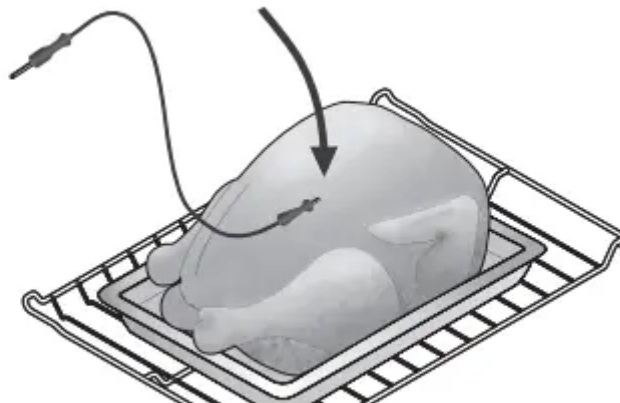

Figure 19: Probe in thickest part of breast
- For whole poultry or turkey, fully insert the probe sensor into the thickest part of the breast (See Figure 19)